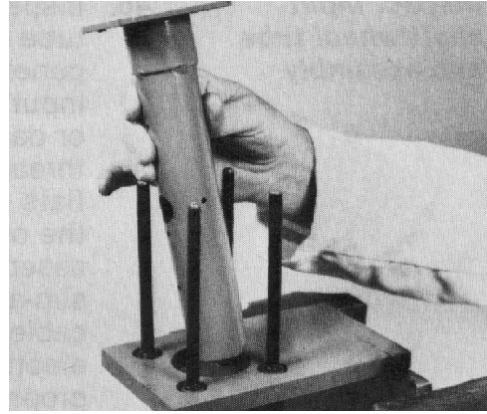

Figure 59
47. Remove the washer and upper cover & jacket (Fig. 59).